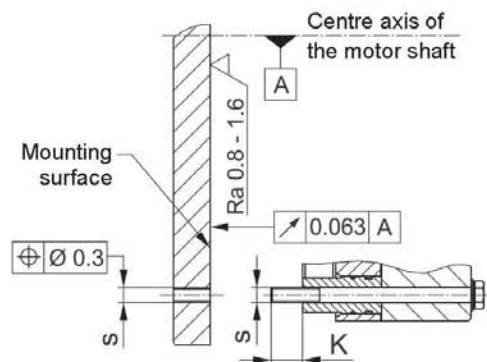

Fig. 5
- ❑ The positional tolerance of the threads for the hexagon head screws (5) must not exceed 0.3 mm.
- ❑ The tolerances of the hub bore (9) and the shaft must be selected so that the hub toothing (9) is not widened. Widening of the toothing leads to the rotor (3) jamming on the hub (9) and therefore to brake malfunctions. Recommended hub – shaft tolerance H7/k6. If the hub (9) is heated for better joining, the O-ring (10) must be removed beforehand and re-mounted after hub installation. The max. permitted joining temperature of 200 °C must not be exceeded.
- ❑ Dimensioning of the key connection according to the requirements shaft diameter, transmittable torque and operating conditions must be carried out. For this, the corresponding user data must be known or the customer must carry out the dimensioning according to the valid calculation basis DIN 6892. For the calculation, a hub quality of $Re = 300 \text{ N/mm}^2$ should be used. The length of the key should lie over the entire hub (9).
- ❑ The mounting dimensions and the tapped holes s with depth $K + 2 \text{ mm}$ ($K = \text{screw projection}$) must be provided according to the Catalogue or the applicable assembly drawing (Fig. 5).